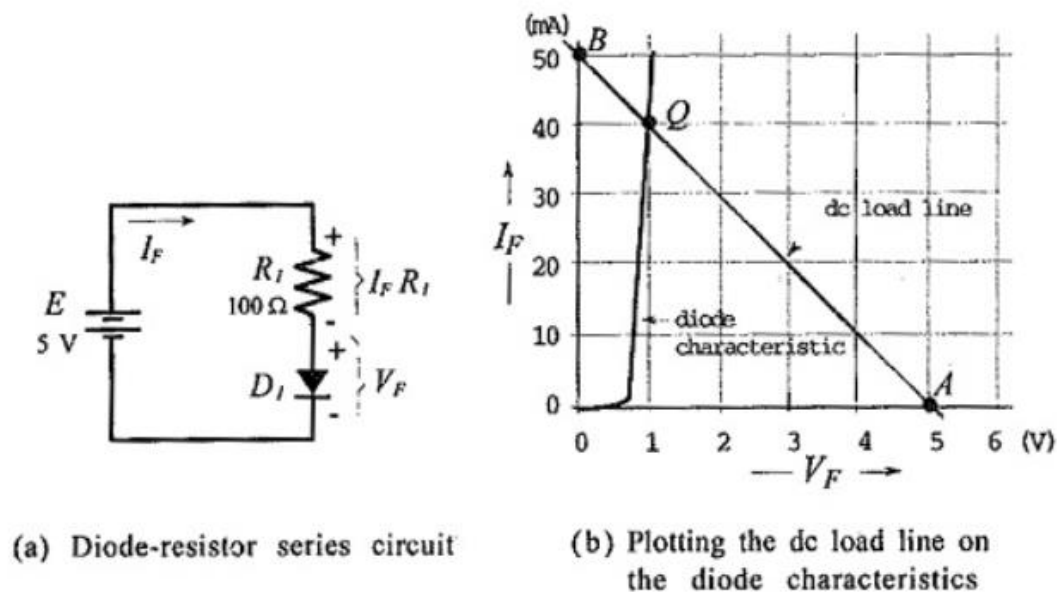

Figure 1.11 Ideal diode characteristics and switch analogy
Figure 1.11(a) shows a DC Load Line Analysis of Semiconductor Diode in series with a $100\ \Omega$ resistance (R_1) and a supply voltage (E). The polarity of E is such that the diode is forward biased, so a diode forward current (I_F) flows. As already discussed, the circuit current can be determined approximately by assuming a constant diode forward voltage drop (V_F). When the precise levels of the diode current and voltage must be calculated, graphical analysis (also termed DC Load Line Analysis of Semiconductor Diode) is employed.
For graphical analysis, a dc load line is drawn on the diode forward characteristics, [Fig. 1.11(b)] This is a straight line that illustrates all dc conditions that could exist within the circuit. Because the load line is always straight, it can be constructed by plotting any two corresponding current and voltage points and then drawing a straight line through them. To determine two points on the load line, an equation relating voltage, current, and resistance is first derived for the circuit. From Fig. 1.11(a),
The relationship between the diode forward voltage and current in the circuit in Fig. 1.11(a) is defined by the device characteristic. Consequently, there is only one point on the dc load line where the diode voltage and current are compatible with the circuit conditions. That is point Q, termed the quiescent point or dc bias point, where the load line intersects the characteristic. This may be checked by substituting the levels of I_F and V_F at point Q into Eq. 1.5. From the Q point on Fig. 1.11(b), $I_F = 40 \text{ mA}$ and $V_F = 1 \text{ V}$. Equation 1.5 states that $E = (I_F R_L) + V_F$. Therefore,